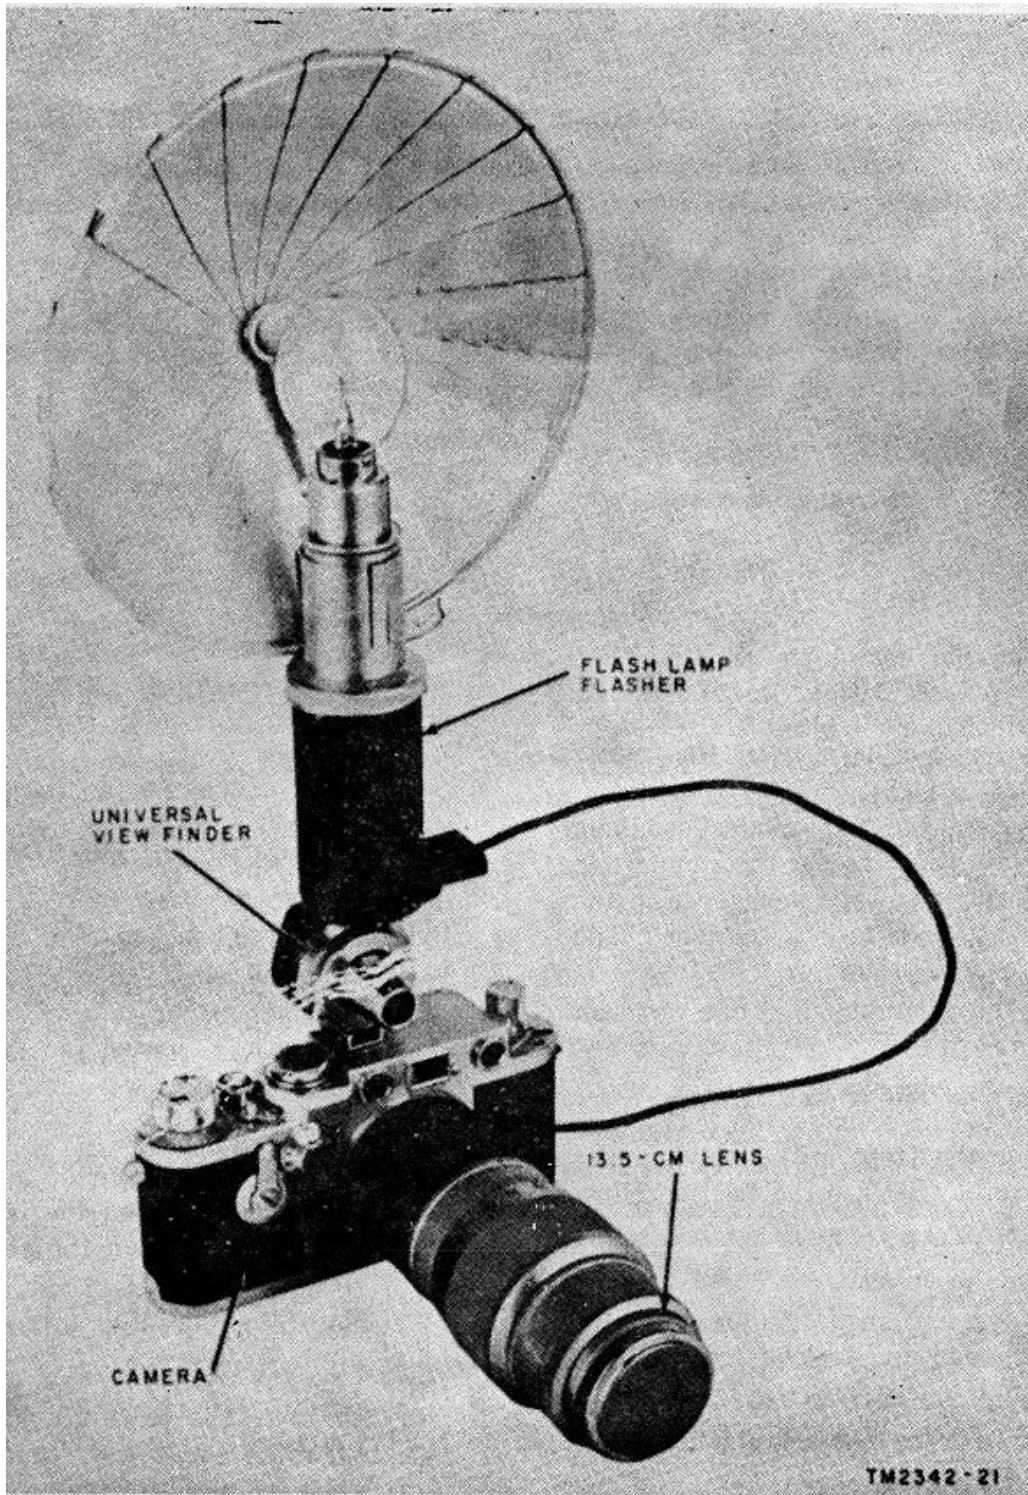
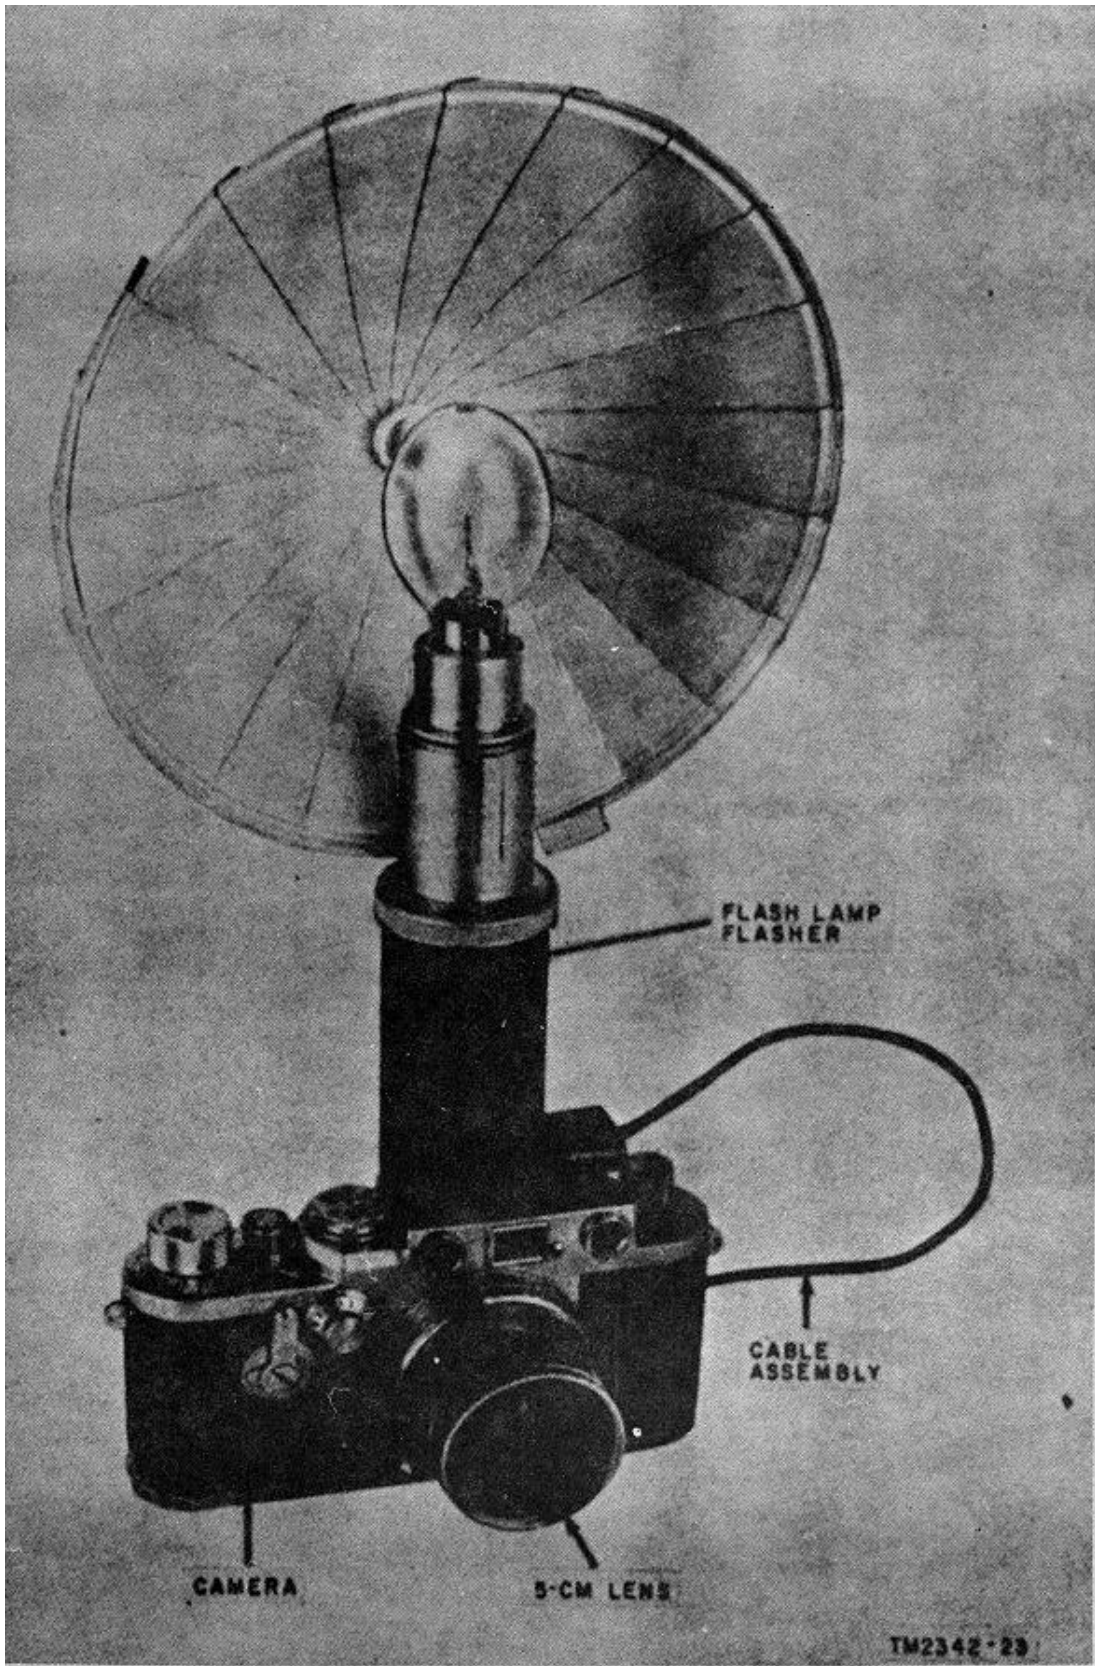

Figure 22. Camera, with 13.5-cm lens, universal view finder, and flash lamp flasher attached.
Figure 24. Camera, with flash lamp flasher attached.
- a. Mount the universal view finder (fig. 22) on the camera by engaging the view finder mounting base rails with the accessory clip on top of the camera.
- (1) Expand the light reflector and lock the sides of the section together to form the parabolic reflector.
- (2) Mount the light reflector in the mounting clip on the flash lamp flasher housing. Raise or lower the light reflector in the mounting clip to center the flash lamp being used.
- (3) Mount the flash lamp flasher in the slide fastener on the camera top cover assembly (fig. 24). If the universal view finder is being used, mount the flash lamp flasher in the accessory clip on the universal view finder (fig. 22).
- (4) Connect the male connector (on one end of the cable assembly) to the flash lamp flasher housing (fig. 24). Connect the male connector with the red dot on the right side facing up.
- (5) Hold the camera plug (on the other end of the cable assembly) in a horizontal position. The engraved arrow on the camera plug must point toward